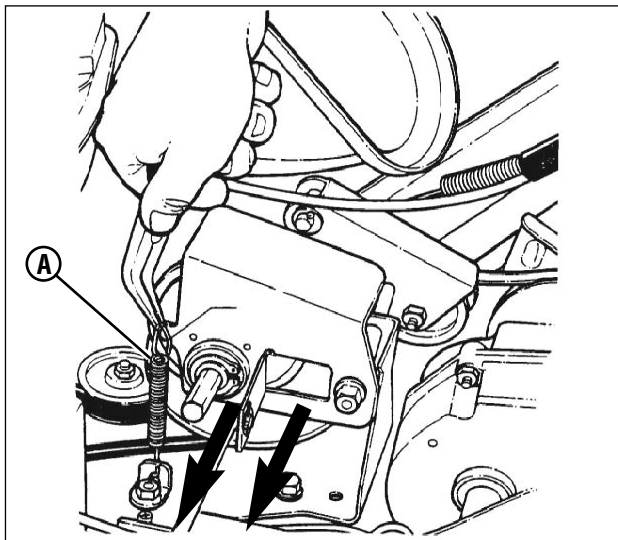

Figure 29: Removing the driven disc assembly
2. Using needle nose pliers, unhook the drive spring (A, Figure 29) and slide the driven disc assembly off the hex shaft.